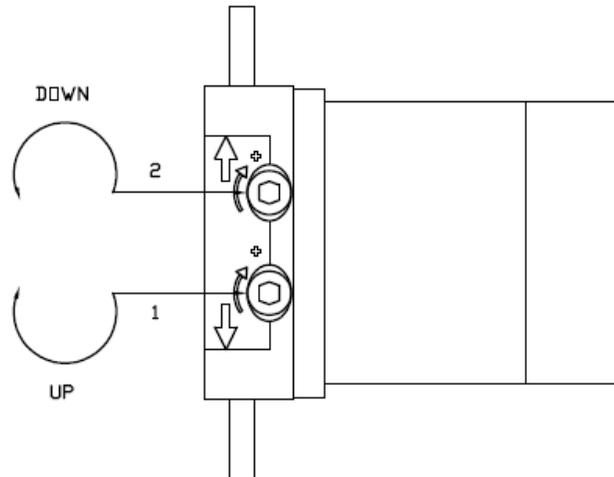

FIGURE 6
11. Identify the limit switch adjusting screws (1) corresponding to up direction and (2) for the down directions. (See Fig. 6). The arrow on the limit switch refers to the direction of rotation of the roller tube. The top knob controls the bottom limit switch and the bottom knob controls the top limit switch.